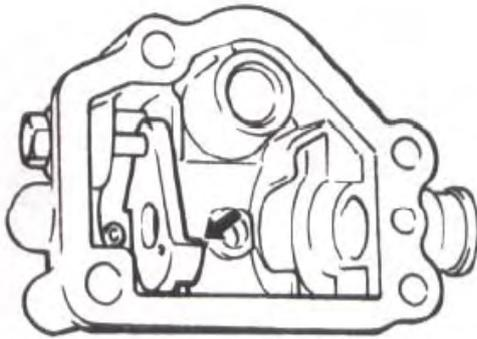

Fig 10-115
(1) Install reverse shift limit dog referring to FIG. 10-115 for installation direction
(2) Install No.2 spring, gear shift lever and washer and No.1 spring to case. Refer to FIG.